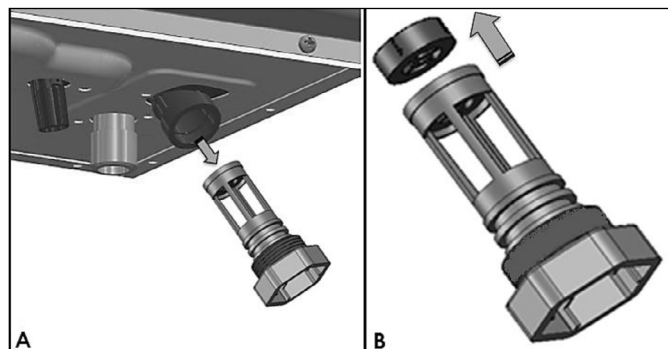

Figure 7 - A - Removing the DHW Inlet Filter, B - Removing the Flow Restrictor
2. Pull the two pins to release the DHW inlet filter. See Figure 7-A. The flow restrictor is attached to the top of the filter assembly.
3. Remove the installed white flow restrictor and replace it with the blue flow restrictor included with the boiler. See Figure 7-B.